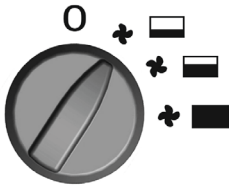

FIG. 1
- **Fig. 1** - Minimum capacity